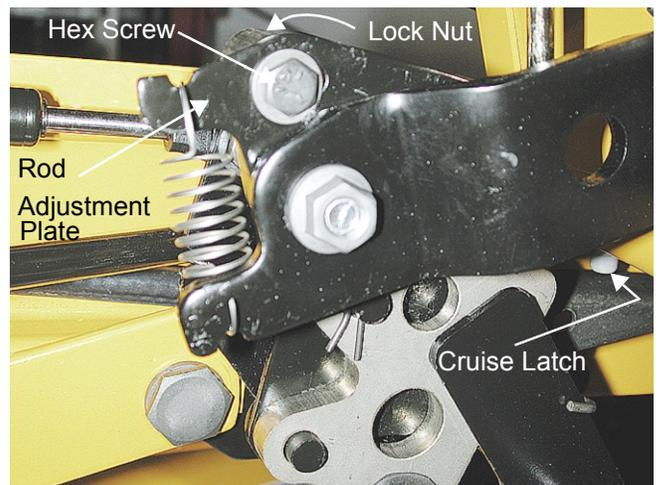

Figure 3
4. Loosen the hex cap screw and flange lock nut securing the rod adjustment plate and cruise latch in position using a 7/16 in. socket and a 7/16 in. wrench. See Figure 3.